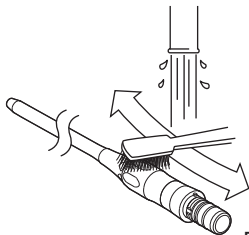

Fig. 19
- 1 Remove contaminants on the surface with a cloth or soft bristle brush under running tap water (Fig. 19).